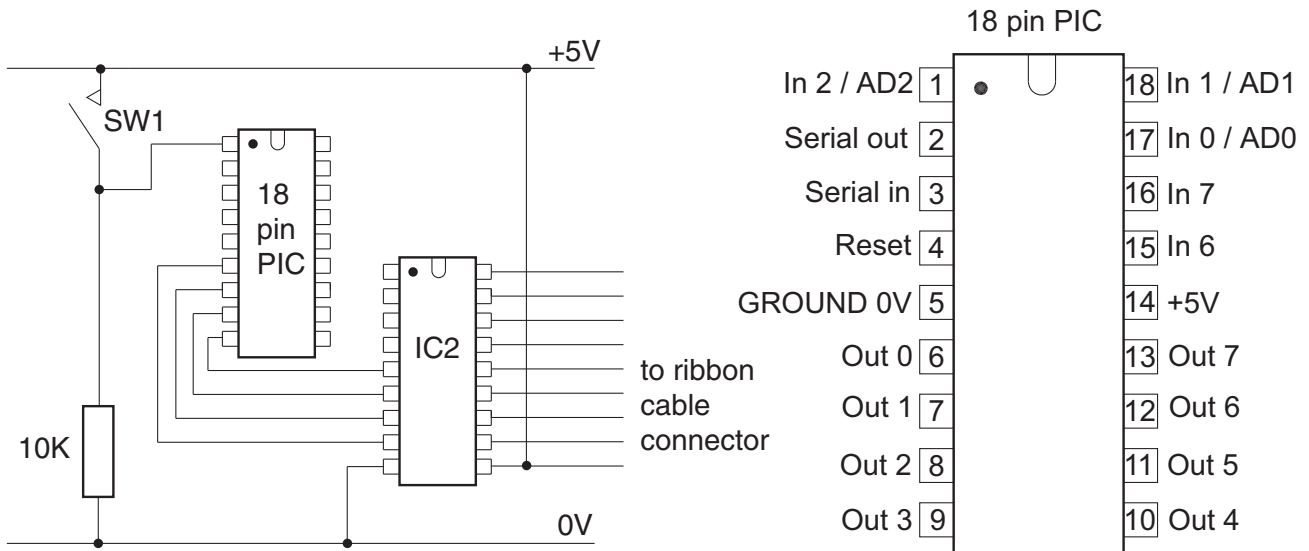

Fig. 7
- 2 (a) Fig. 7 shows part of the circuit for a device to allow a cricket umpire to record the number of balls bowled in an over. The count is increased when SW1 is pressed.
- (ii) On Fig. 7 show the reset pin connected **high** through a 4K7 resistor and **low** through a switch. [2]